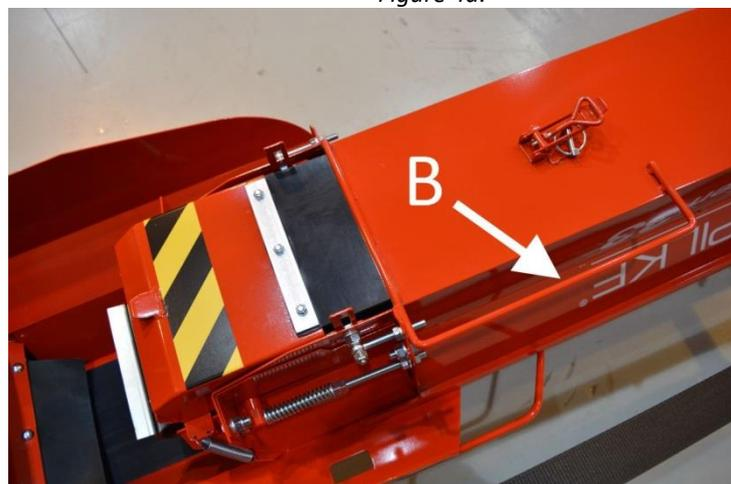

Figure 4b.
4. Turn the upper section of the conveyor into the operating position using handle B (Figure 4b).